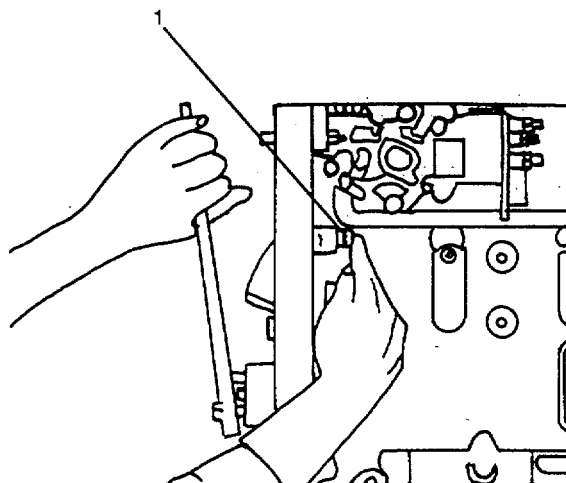

FIGURE 2-28. Cylinder 1, Top Dead Center Pin
- d. Locate Top Dead Center (TDC) for Cylinder Number 1 by barring engine slowly while pushing in on TDC pin. Disengage the pin after locating TDC. (FIGURE 2-28).